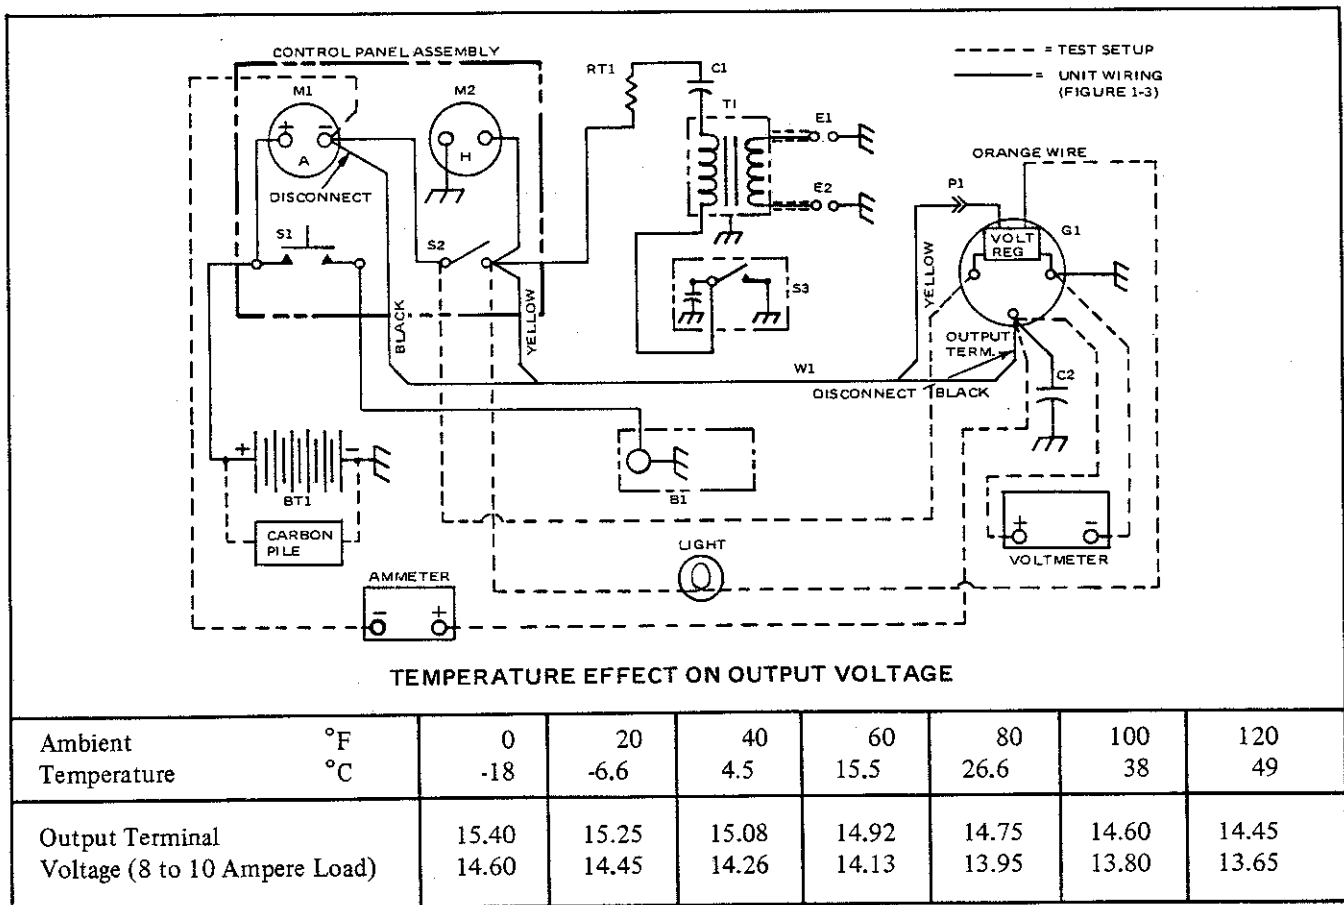

Figure 6-4. Alternator/Regulator Test Schematic
The alternator/regulator may be installed on the engine or on a test bench for the following tests. If installed on the engine, make test connections shown on figure 6-4. If tested on a test bench, all connections shown on figure 6-4 must be made.
- (1) Connect instruments and carbon pile as shown in figure 6-4. Test output as follows:
- (2) With connections as in figure 6-4 except that carbon pile is disconnected, and ignition switch off, observe that ammeter reads zero and voltmeter shows battery voltage. Current flow indicates isolation diode assembly (20, figure 8-11) is shorted. Continue as follows:
- (a) Move voltmeter positive lead to auxiliary terminal. If meter shows voltage, diode assembly (20) is shorted or wire terminal at positive output is shorting the stud to diode assembly.
- (3) With connections as in figure 6-4 except that carbon pile is disconnected and voltmeter positive lead is connected to auxiliary terminal, turn ignition switch on and observe that voltmeter reads 1.5 to 2.5 volts. If voltage exceeds 2.5 volts, rotor or regulator may be defective. Turn switch off and proceed as follows:
- (4) With connections as in paragraph (3) above, start engine and run for a few minutes at speed to give approximately 2250 rpm at alternator. Observe that voltmeter reads 0.8 to 1.2 volts higher than the temperature corrected output voltage given in figure 6-4. (It will be necessary to switch positive voltmeter lead between auxiliary and output terminal a few times to determine voltage.) If auxiliary terminal voltage is correct, but output terminal shows only battery voltage, the isolation diode assembly (20, figure 8-11) is open and must be replaced.
- (5) During test of paragraph (4) above, if the ammeter showed current of 8 to 10 amperes, the voltage at the output terminal is the regulator setting. Refer to figure 6-4 for effect of ambient temperature on output voltage.